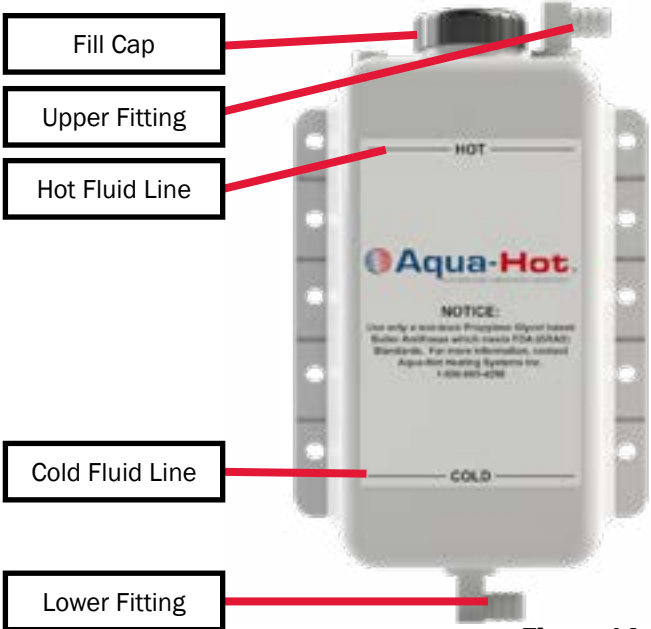

Figure 14
- A maximum of three 90° exhaust bends are allowed. Reference Figure 14.